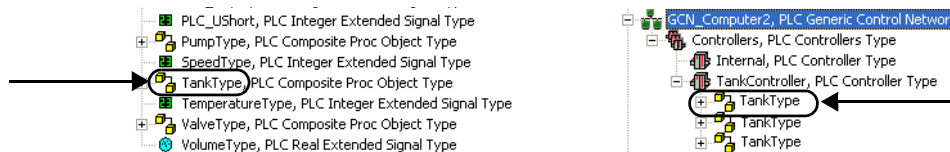

Figure 23. Object Type Structure (Left), and Control Structure (Right)
23. The last part of the process object name shows its type, see also Figure 23.